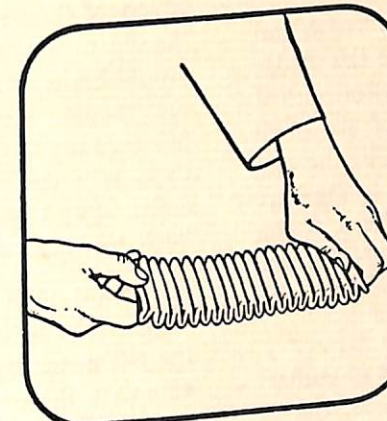

FIG. 71.
- (g) Spread out element for cleaning (see fig. 71).